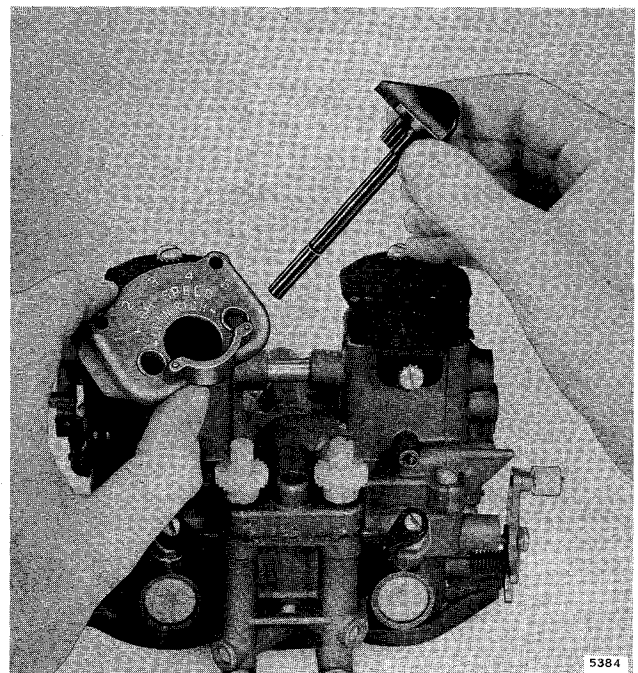

Figure 3-10. High-Speed Control Gear Assembly
- f. Remove high-speed control gear shaft retainer ring, washers, spring, and shaft. See Figure 3-10.